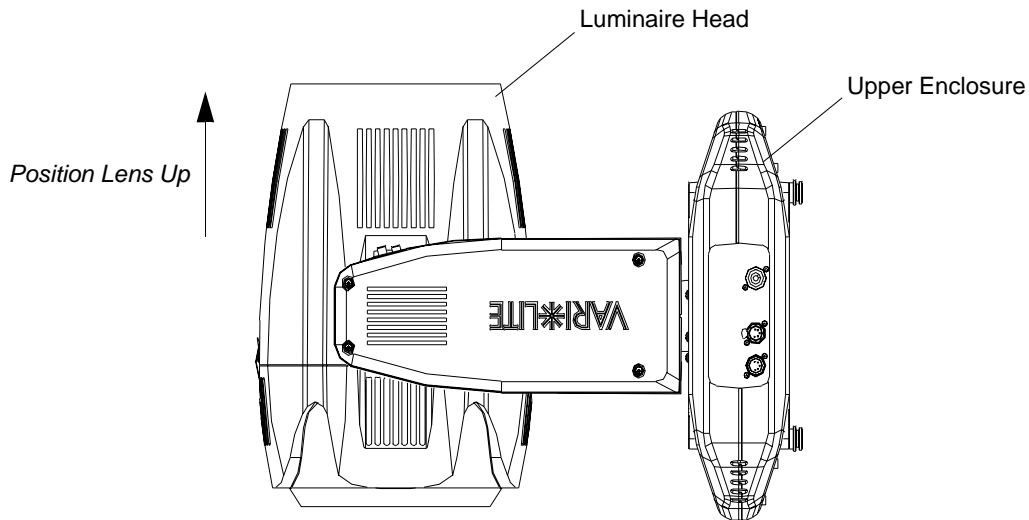

Figure 2-57: VLX Wash Luminaire
- Step 2. Carefully lay luminaire on flat, steady surface to have access to bottom cover of upper enclosure. Be sure connector side of upper enclosure is up and rotate head as shown in Figure 2-57.